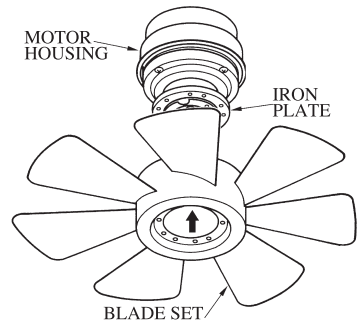

FIG.1
1. Align the blade with the iron plate from the motor(see fig. 1). Tighten the screws with the blade set.